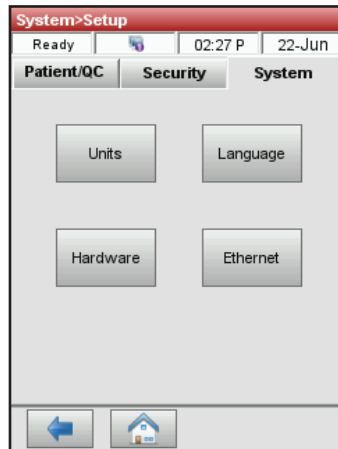

Figure 25. System Manager > Setup screen
2. On the Systems tab, tap **Hardware** (figure 25).